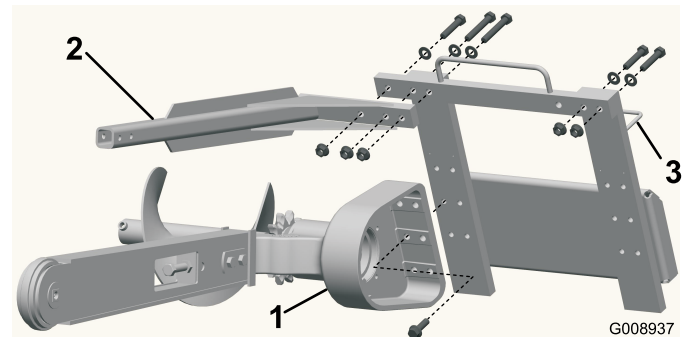

Figure 7
2. Remove the 6 bolts securing the trencher head to the frame (Figure 7).
4. Attach the head to the frame with the 6 bolts removed previously (Figure 7).
6. Remove the 3 bolts, washers, and flange nuts from the safety bar and remove the bar (Figure 7).
7. Remove the 2 short bolts, washers, and flange nuts securing the right side of the upper frame and move them to the corresponding holes on the left (Figure 7).
8. Install the safety bar over the trencher chain using the 3 bolts, washers, and flange nuts removed previously (Figure 7).
10. Move the hoses from the hose guide on top of the trencher to the hose guide on the left side (Figure 7).